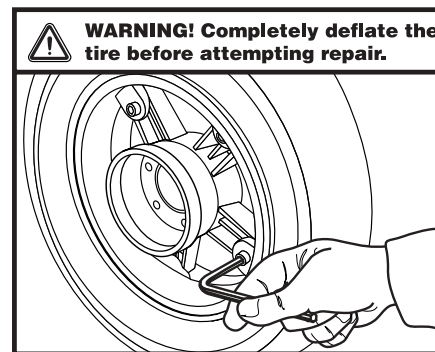

Figure 28. Rim Securement
4. If changing a flat, completely deflate the tire before removing the five (5) screws that hold the rim halves together. See figure 28.
6. Reassemble the rim and secure it with the five (5) screws.
7. Reinstall the wheel back onto the PMV and secure it with the five (5) screws.